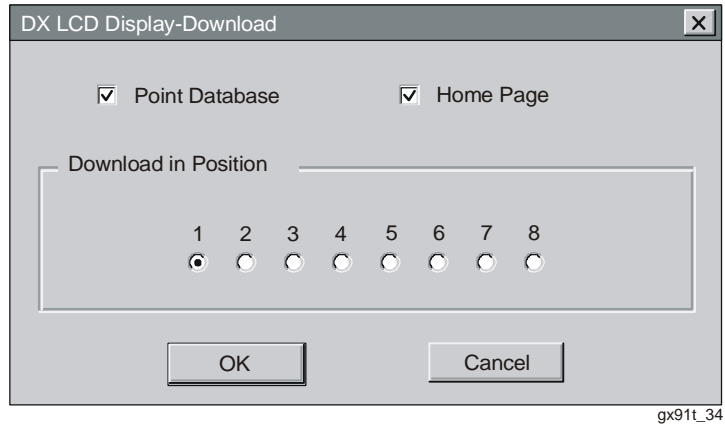

Figure 16-2: DX LCD Display Download Dialog Box
3. On the DX LCD Display menu, click Download Display. The DX LCD Display-Download dialog box appears (Figure 16-2).